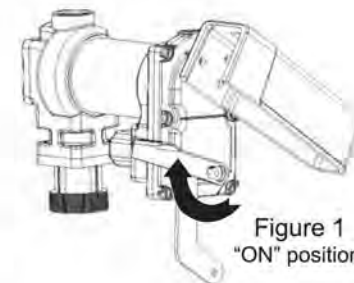

Figure 1
1. Thread the 1" pipe into the tank adapter. Seal threads liquid tight with appropriate sealant. (Figure 1)
3. Move the switch lever to the "ON" position to power the pump (Figure 1).